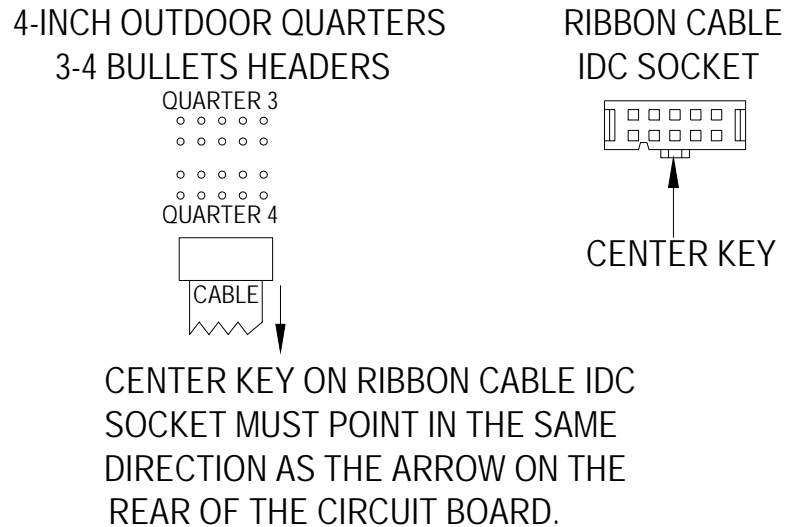

Figure 15 Quarters 3 and 4 Indicators Ribbon Cable Connection Diagram
8. The circuit board used for the QUARTERS 3 and 4 indicators has two headers. Refer to figure 15 in order to plug the ribbon cable IDC connector onto the correct header on the circuit board in the proper orientation.